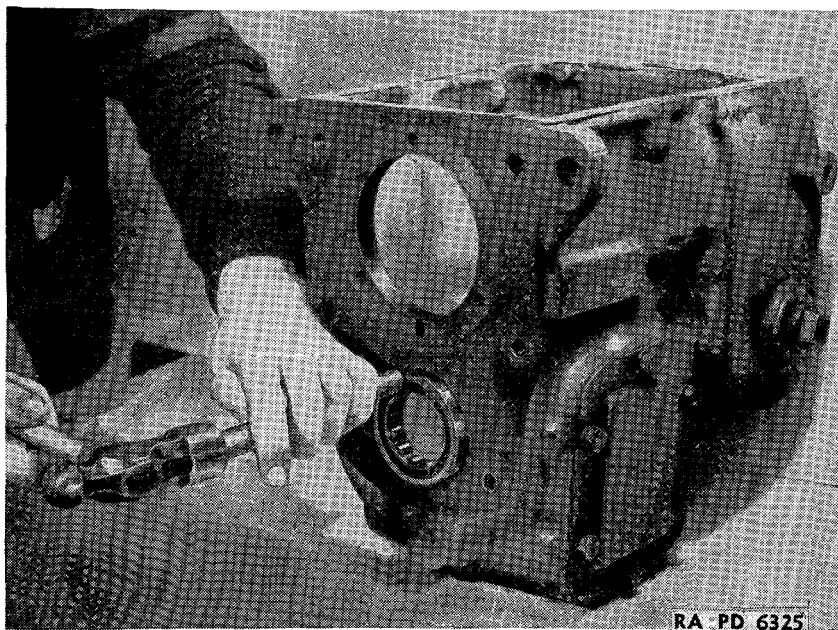

FIGURE 148.—Transmission countershaft front bearing replacement.
(1) Replace countershaft front bearing—brass drift, hammer. Drive bearing into case (fig. 148).